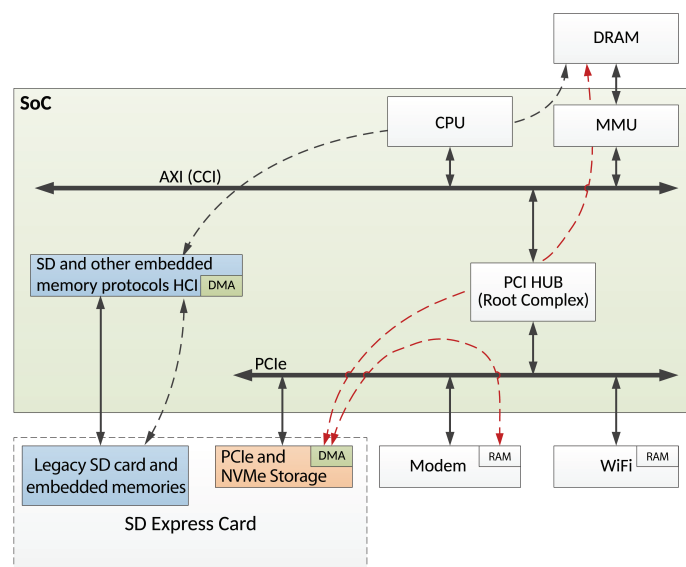

Figure 4 – Bus mastering of PCIe
- Bus mastering (first-party DMA) is natively supported in PCIe, see Figure 4.
- For example, a modem can send IO requests directly to the storage without any help from the Application Processor (AP):